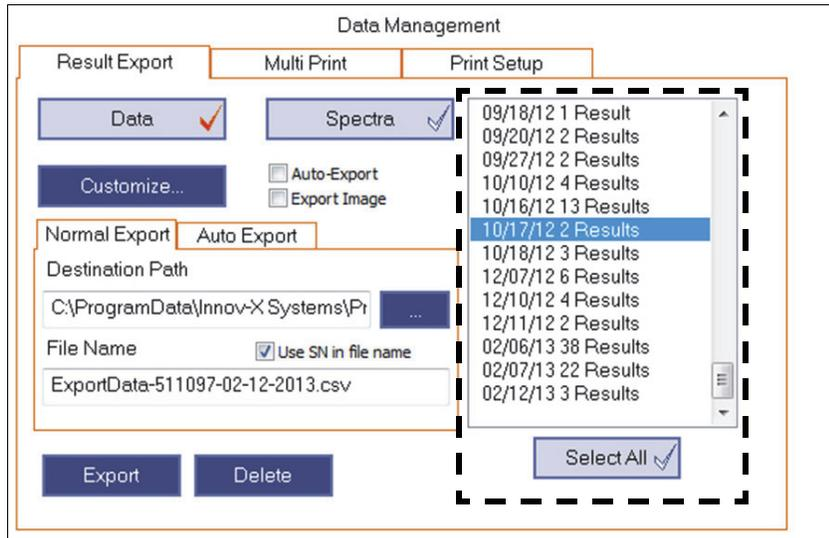

Figure 1-26 Data Management – Results list
6. In the **Results** list, results sets are grouped by date. Click one or more dates to select specific results sets for export (see Figure 1-26 on page 22).